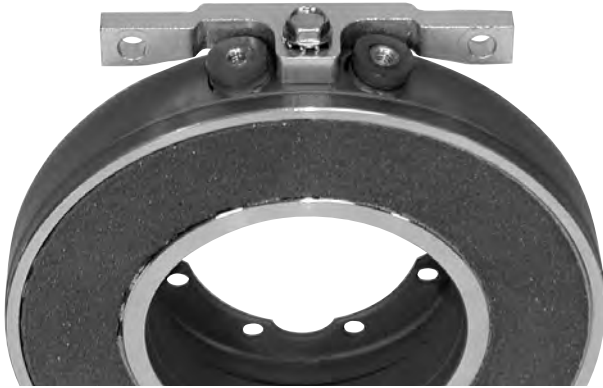

Figure 2
Fasten bracket (1) to clutch field/brake magnet with one No. 10-32 hex washer head screw (2). The screw is self-tapping, threads are not provided in the magnet bracket adapter. The square projection on the magnet fits into the square hole in the bracket. The curved side of the bracket mounts toward the magnet. The bracket flange is toward the flange side of the magnet. (See Figure 2)